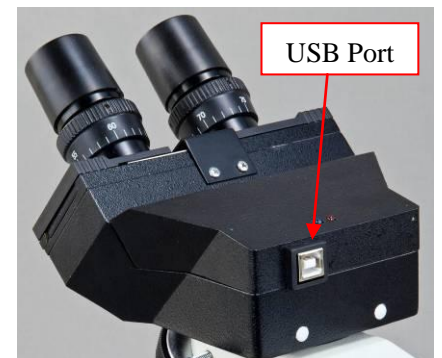

Fig.11
- 2) Insert the USB cable into the USB port (**Fig. 11**) on the back of viewing head, and the other end to the computer.